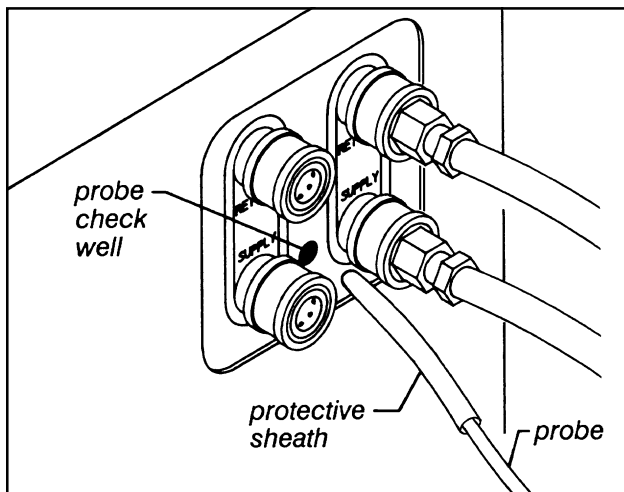

Figure 11—Probe Check Well
2. *CHECK PATIENT PROBE* alert may sound if machine is placed in *MANUAL*, *AUTO*, or *MONITOR* mode before patient probe has been inserted in patient, since probe will be sensing room temperature. Place probe in patient and wait five (5) minutes before pressing *MANUAL*, *AUTO*, or *MONITOR* mode button.
3. Check probe to make sure it has not become dislodged from patient. Reinsert and tape securely if required. Wait five (5) minutes before pressing *AUTO* mode button.
- a. Insert probe into protective sheath and then into *PROBE CHECK WELL* on front of machine base (fig. 11, p. 17).